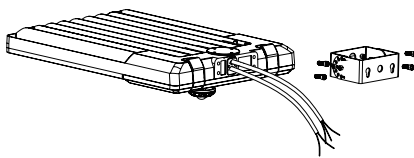

Figure 5
Step 1: Remove the bracket mounting screws on the fixture and run the wires through the bracket. (Fig. 5)